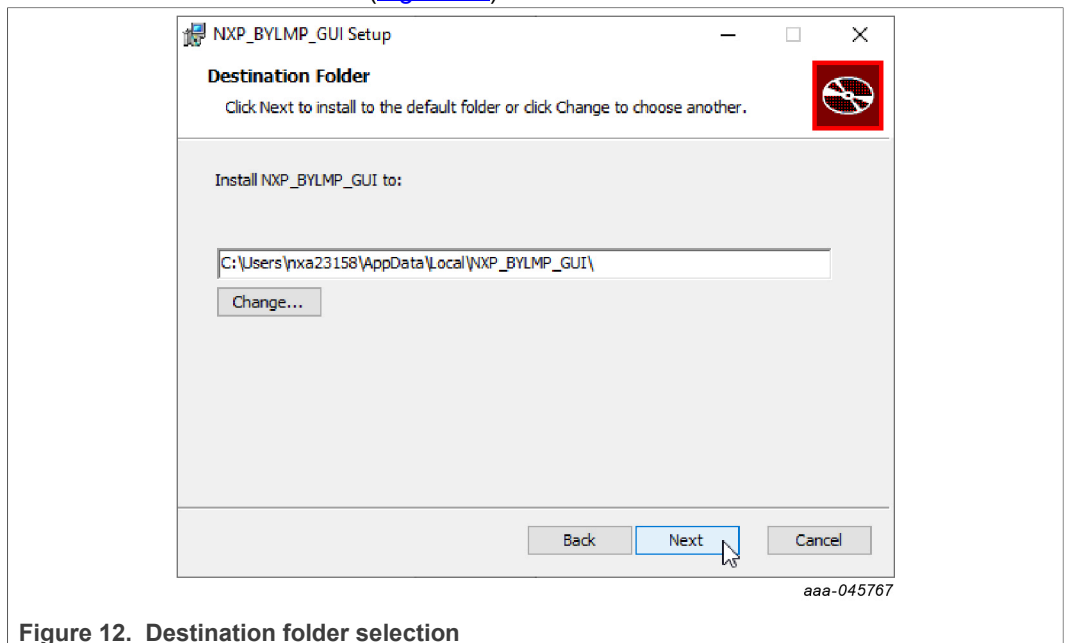

Figure 12. Destination folder selection
3. Select a destination folder (Figure 12) and click the Next button.